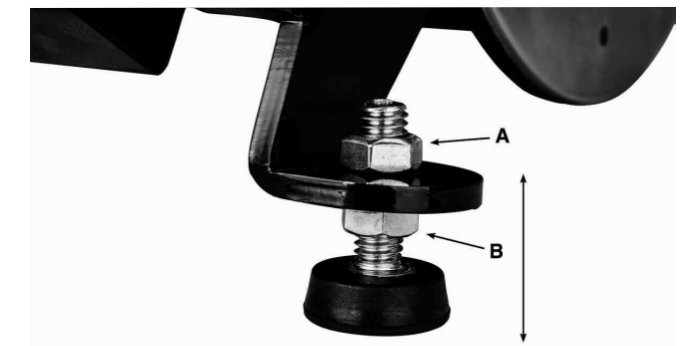

FIGURE 6
1) Install the leveling feet as shown in Fig.6, with one hex. nut (A) above the mounting hole, and one hex. nut below (B). Adjust the height of the feet by loosening the hex. nuts as needed.